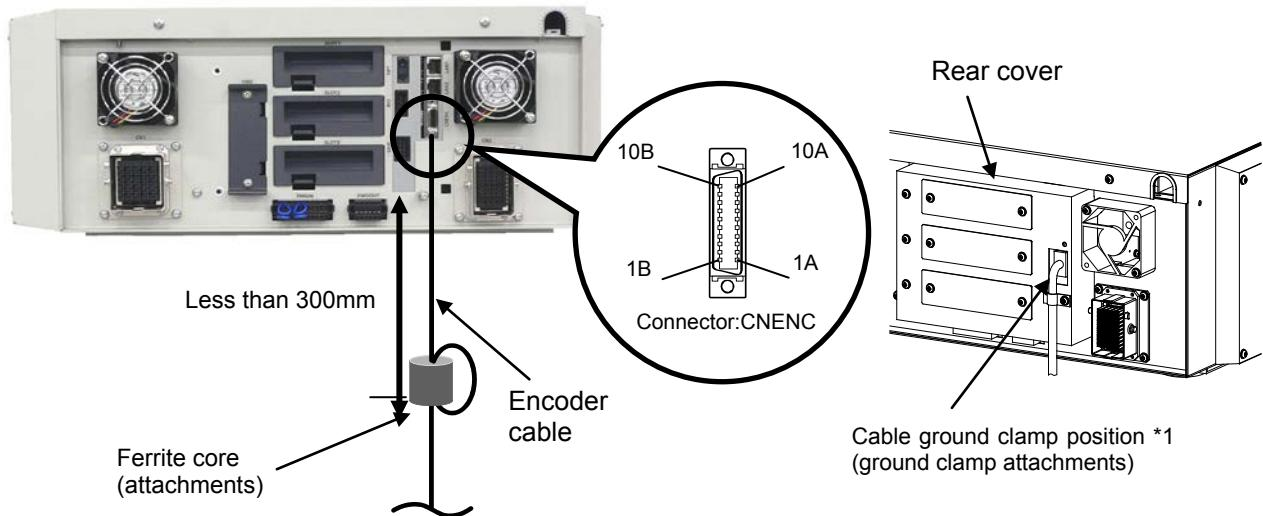

Figure 10-10 Installation of encoder cable (CR2D-700 series)
- *CR2D-700 series: "Figure 10-10 Installation of encoder cable (CR2D-700 series)"